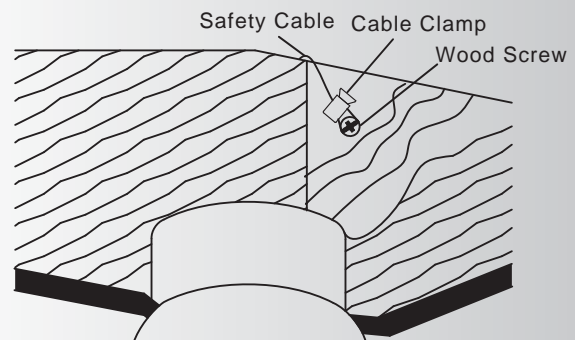

Fig. 11-2
Step 2. Adjust the length of the safety cable to reach the screw and washers by pulling the extra cable through the cable clamp until the overall length is correct, put the end of the cable back through the cable clamp, forming a loop at the end of the cable. Tighten the cable clamp securely. Remove the excess safety cable. Now, put the loop in the end of the safety cable over the wood screw and under the washers. Tighten the wood screw securely. (Fig. 11-2)